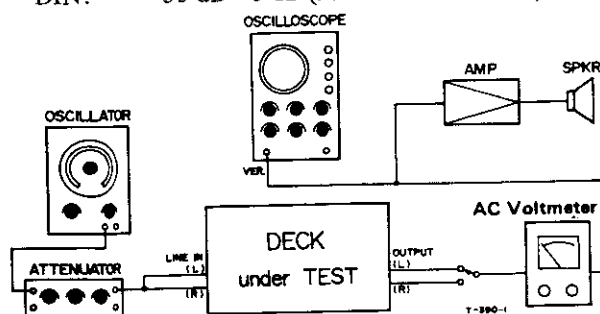

Fig. 6-8 Connection
1. Connect the deck and the test equipment as shown in Fig. 6-8.